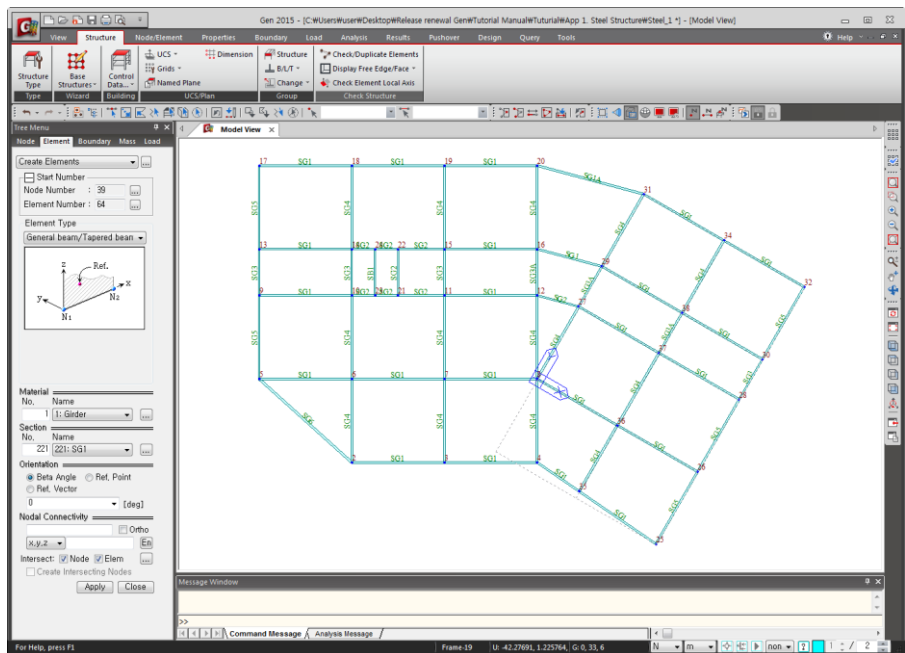

Figure 1.15 Input the beam element of the 2nd floor of the skewed part
Create the Remainders (Refer to Figure 1.15)
**Select Single** (unnecessary node & element; ❶ of Figure 1.15)